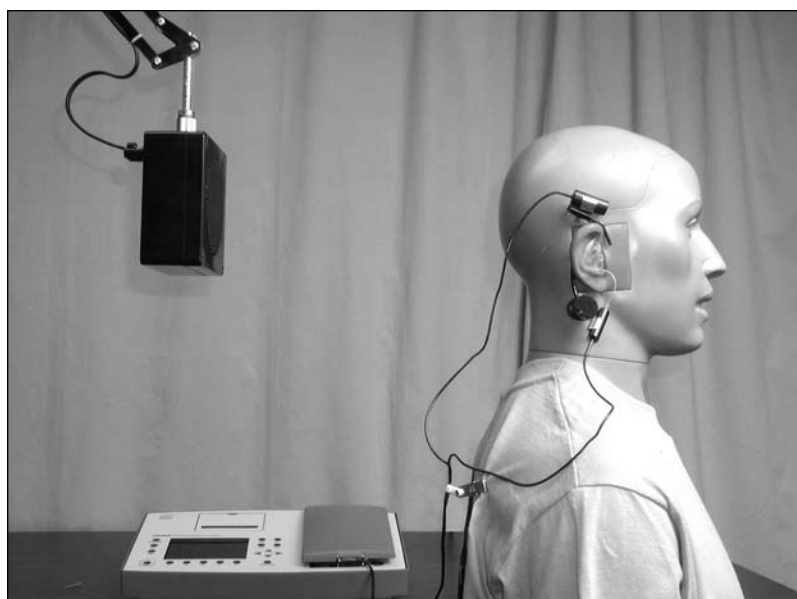

Figure 5.4.4A—"Reverse" directional aid setup
10. Turn your client around so that the back of his head is facing the speaker. See Figure 5.4.4A. Alternately, if you are using an external speaker on a swing arm, you can swing the speaker around the client.